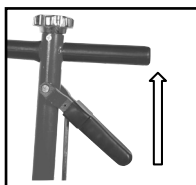
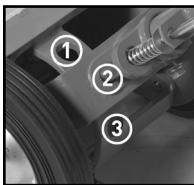
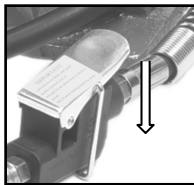

Fig. 12
Fig.13
Fig.14
- Position the handle assembly (2) in desired angle. This is done by pulling the lock lever (3) [fig.12] and raising or lowering the handle to one of the three pre-set position (fig.13). Release the lock lever (3) to lock the handle in the desired position.
- Turn the release knob (1) completely clockwise to its closed position. Then connect to the air supplies air hose (not included) to the air inlet (13).
- Depress the lever on the air valve assembly (12) until the Saddle (9,10 or 11) of the Air/Hydraulic Truck Jack has nearly reached the vehicle lifting point. Position the Jack at 90° to the vehicle's lifting point to ensure the Jack's Saddle and vehicle lifting point are in alignment. If not, remove and then reposition the Air/Hydraulic Truck Jack before lifting.
- To lift the vehicle, continue to depress the lever on the air valve assembly (12) (fig 14).